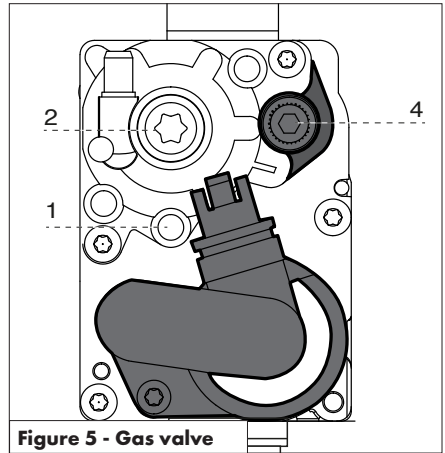

Figure 5 - Gas valve
The boiler gas valve is equipped with a Line Pressure Test Port; see screw 1, Figure 5. Use the following procedure to measure the gas line pressure to the boiler to ensure it falls within the range given in Table 2:
- b. Loosen screw **1 (Torx 10 - Line Pressure Test Port)**. This port is directly connected to the gas line feeding the boiler. See screw 1, Figure 5.